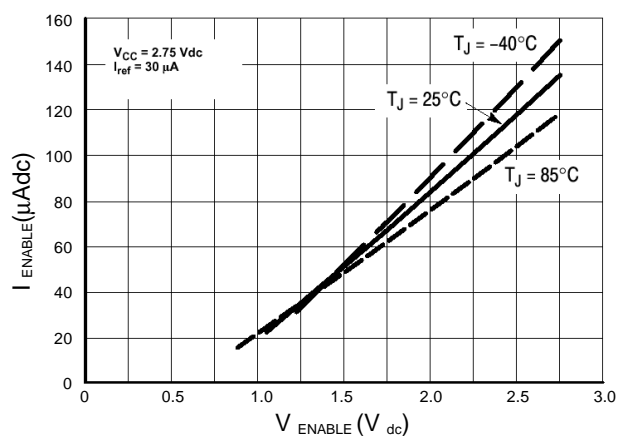

Figure 5. I_{enable} versus V_{enable}
- Step 2: Insure that Min V_{ENBL} is . minimum indicated in Figures 5 and 6.
- Step 2: Insure that Min V_{ENBL} is \geq minimum indicated in Figures 5 and 6.